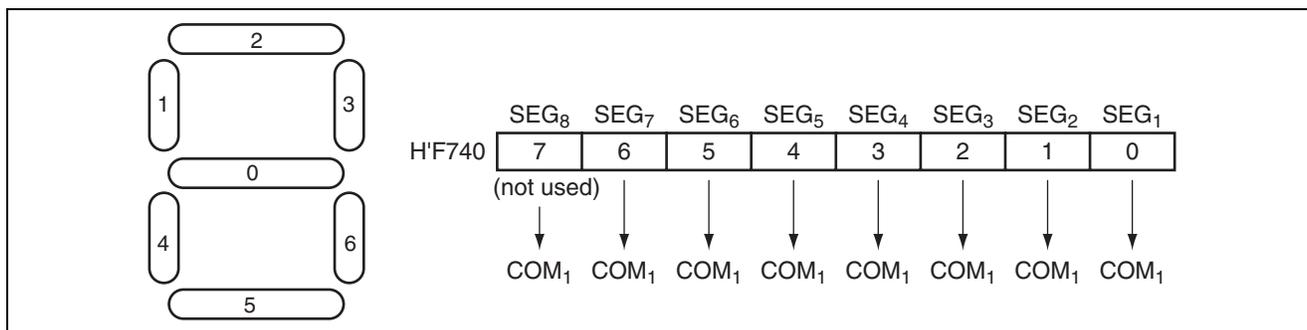

Figure 2.5 Relationship between LCD Lit/Unlit States and LCD RAM Settings
7. Figure 2.5 shows the relationship between SEG₁ to SEG₇ display on the 4-digit 7-segment LCD and the corresponding LCD RAM. As the figure 2.5 shows, when the LCD RAM bits for segments 0 to 7 are set to 1, the corresponding segments are lit; when cleared to 0, the corresponding segments are unlit.